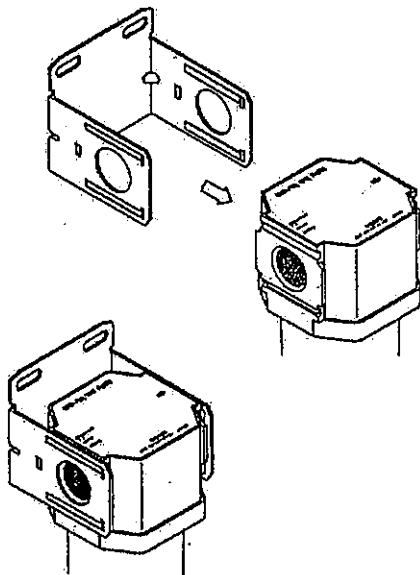

Fig.3.
- 1) In case of making use of the C type bracket "B" (optional), mount the regulator onto the C type bracket first, prior to screwing a piece of pipe into body of regulator. After aligning side grooves of body of regulator to the ridges on both sides of the C type bracket, push side the bracket forcibly along the groove as per illustrated in Fig.3.